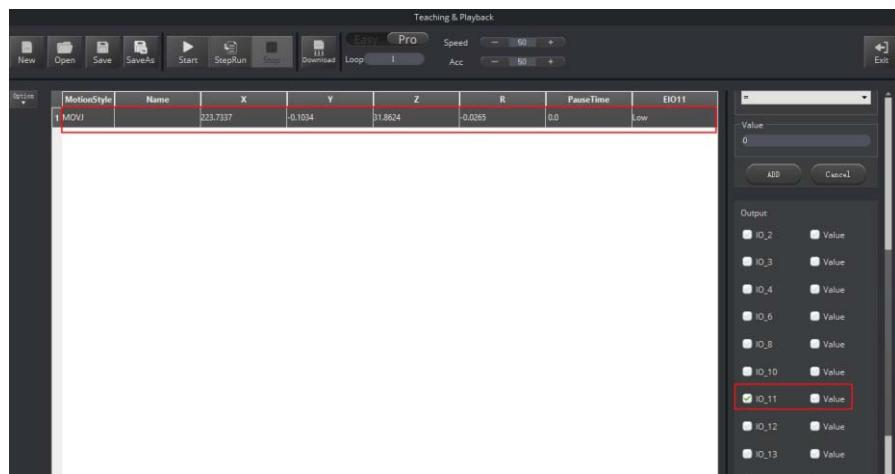

Figure 5.195 Saved point
**Step 2** Select **IO\_11** on the Output pane, and click **+Point**, as shown in Figure 5.195.